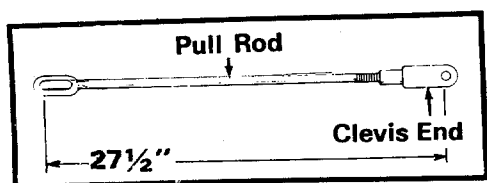

Figure 4
1. Adjust the clevis ends on both pull rods so that they measure 27½ inches. (See figure 4.)